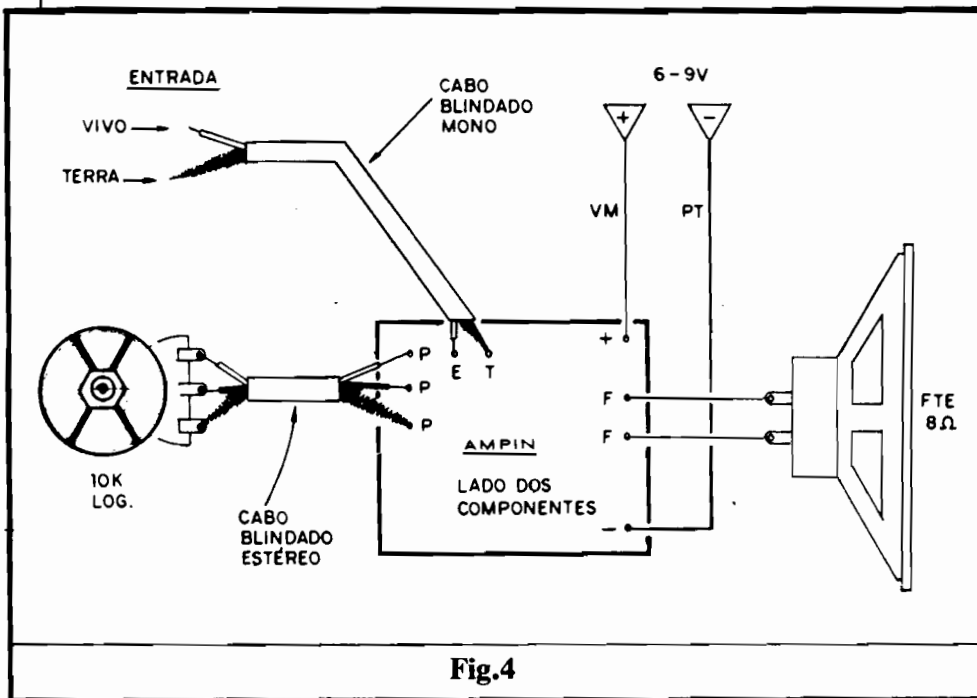

Fig.4
- FIG. 4 - CONEXÕES EXTERNAS À PLACA